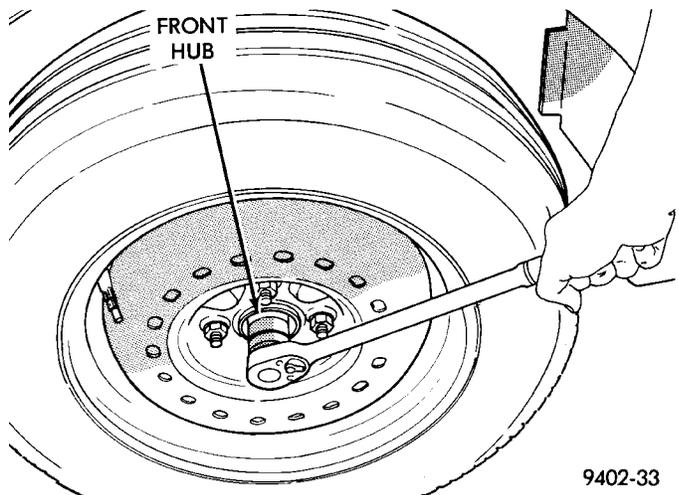

Fig. 4 Loosening Front Hub Retaining Nut
- (2) Loosen (but do not remove) stub axle-to-hub/bearing retaining nut (Fig. 4). Loosen hub nut while vehicle is on the floor with the brakes applied. The front hub and driveshaft are splined together and retained by the hub nut.